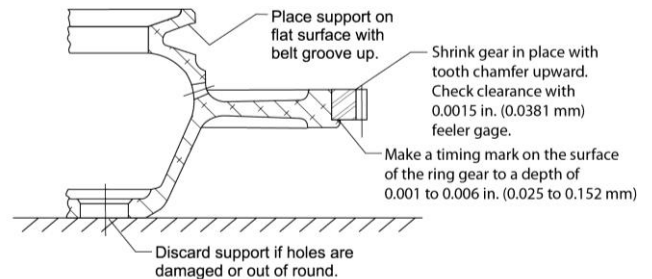

Figure 1
5. Put the ring gear support on a flat surface with the alternator/generator belt groove upward as shown in Figure 1.